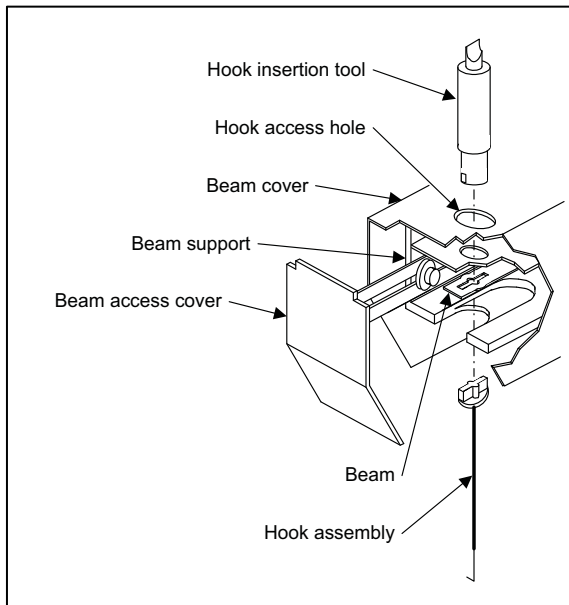
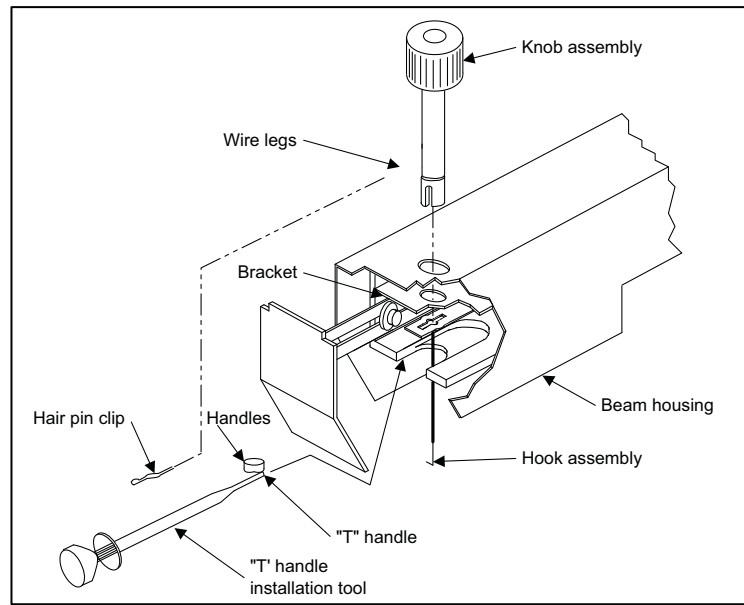
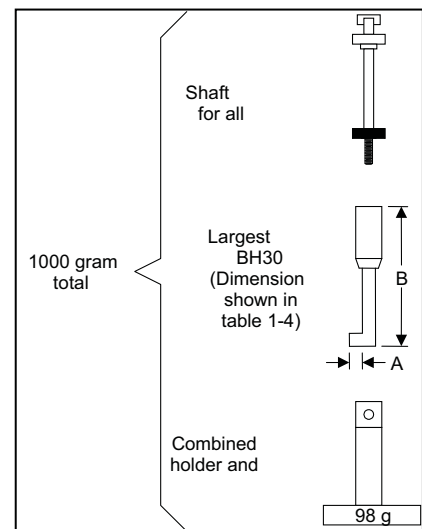

Figure 1-3. B10 and B100 Beam
Figure 1-4. B100R Beam and Insertion Tool
Figure 1-5. 1000g Beam Hook and Calibration System
The Hook Assembly for the B10 and B100 beams is inserted into the beam using a special insertion tool (figure 1-3). The hook assembly for the B100R consists of several parts which are assembled using a T-handle insertion tool (figure 1-4). The hook on the 1000gf beam, figure 1-5, is attached to the bottom of the hook shaft. The weight of the hook assembly is critical to both the operation and the accuracy of the measuring system. Because of inertia, large massive hooks, whose weight typically exceeds 0.2 grams, cannot meet the accuracy requirements of the MIL-STD when used at normal speeds in the 0.5 to 10 gf pull range, on either the 10gf or 100gf beams. Hooks weighing up to 10 grams can be used on the 1000gf beam.
* See figure 1-5